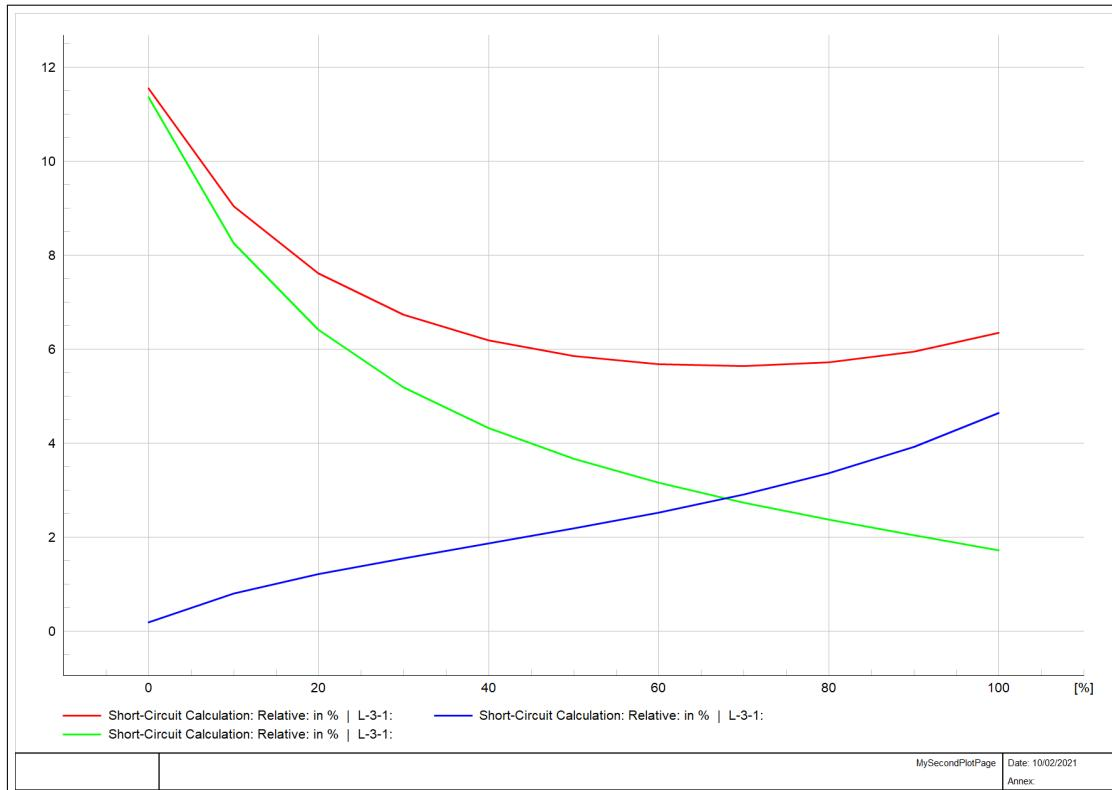

Figure 7.2: Plot with several curves
- Add a new plot curveXYplot and display the curve of several variables. In this case, compare Short circuit current from bus1, bus2 and busshc of the line in the same plot over short circuit position (see Figure 7.2)